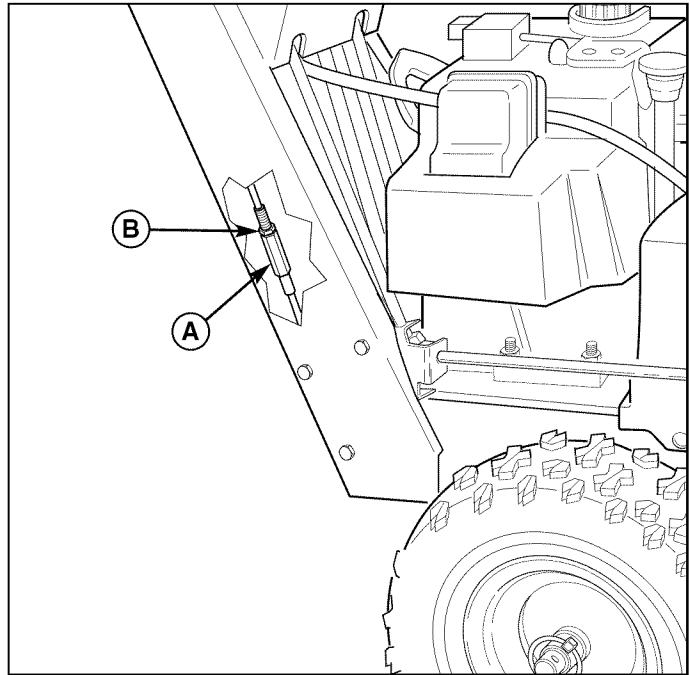

Figure 25. Cable Adjustment
2. Loosen the jam nut (B, Figure 25).
3. Turn the adjustment nut (A) to lengthen or shorten the cable. The cable should be tightened just until all slack is removed from the lever, however it must not engage the Easy Turn™ release without depressing the control lever.